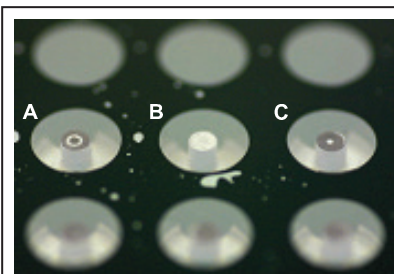

Figure 3. Stoppers that are:
- Visually inspect the underside of the populated 96-well plate to ensure that the Oris™ Cell Seeding Stoppers are firmly sealed against the bottom of the plate. To inspect the stoppers, turn the plate over and examine the stoppers for sealing (see Figure 3). If incomplete sealing is observed, return the plate to the upright position and use a sterile instrument to gently push the stopper back into the well until sealing is observed.